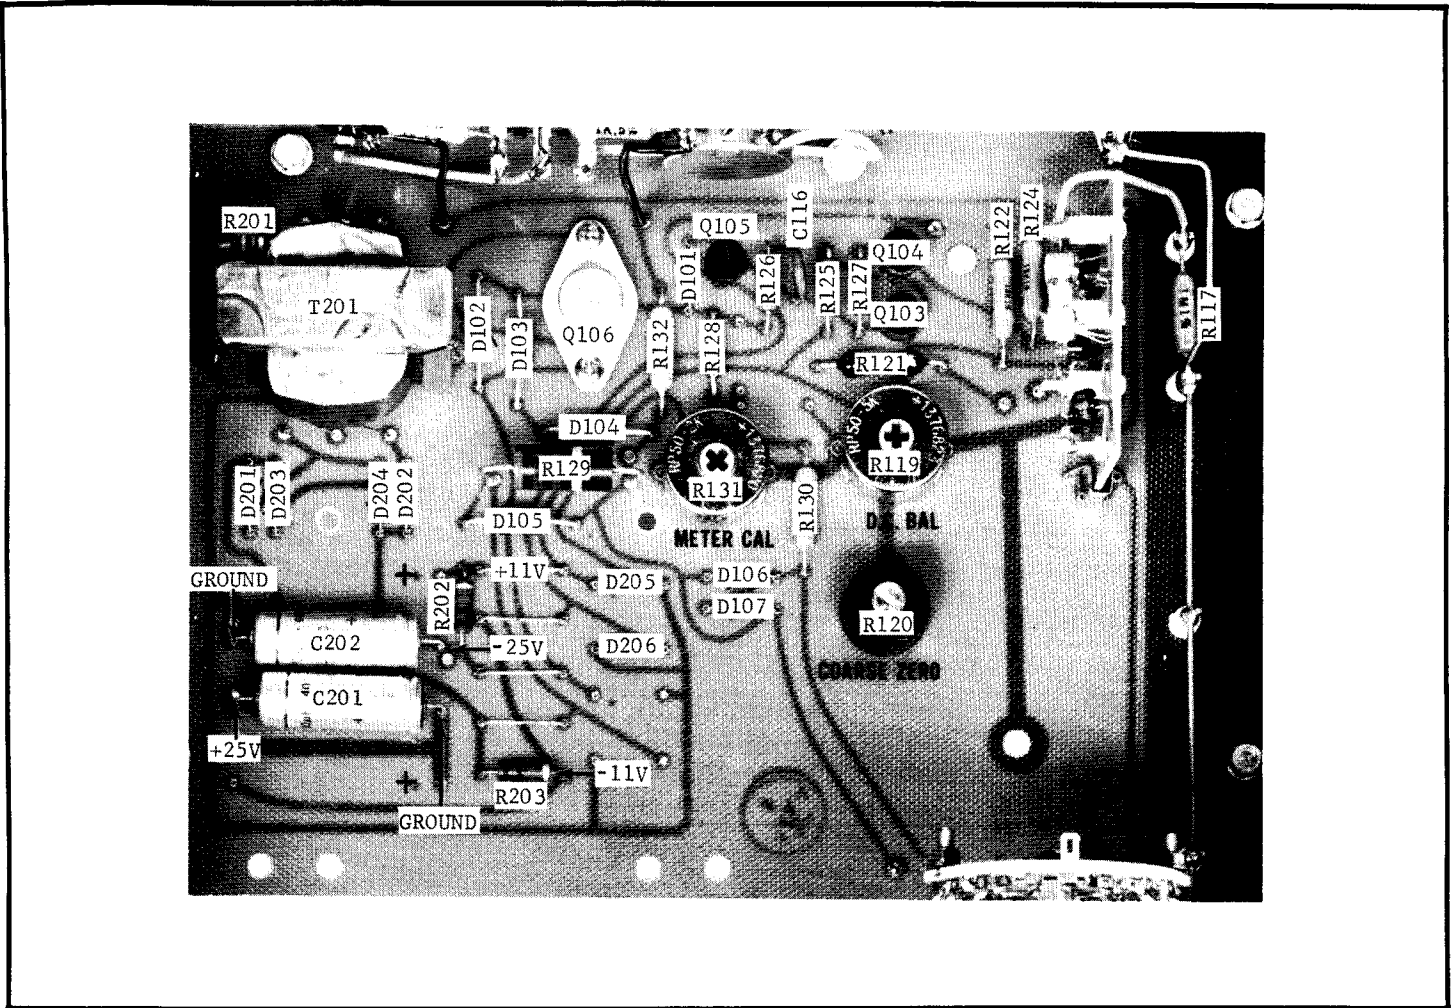

FIGURE 7. Component Layout, PC184.
5-3. POWER SUPPLY CHECK. (See Figure 7 for test points for the Power Supplies.)
a. Check the positive and then the negative 25 volt supply by connecting the Model 7050 across capacitors C201 and C202 respectively (Figure 7). The voltage should be plus and minus 25 volts ± 2 volts respectively. The ripple in each case should be less than 3 volts peak-to-peak.
For all these power supply checks make sure the Model 7050 is connected between ground and the test points (Figure 7).